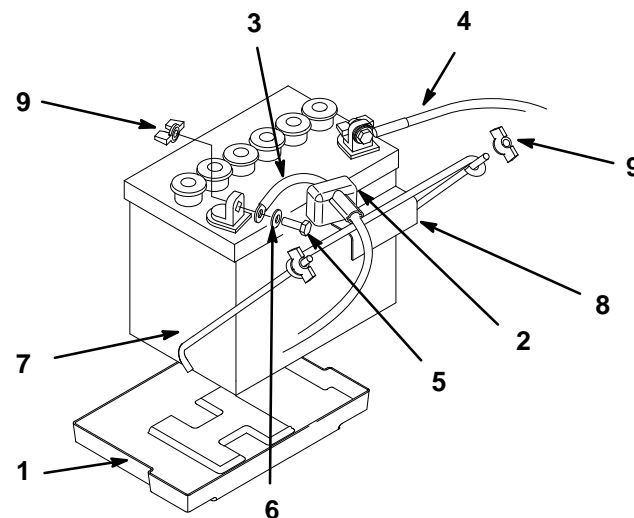

Figure 6
2. Position battery in tray with terminal posts toward the engine (Fig. 6).
4. Install the positive (red) battery cable to positive (+) battery terminal then negative battery cable to the negative (-) battery terminal. Secure cables with (2) 1/4 x 3/4" (19 mm) bolts 1/4" washers, 1/4" lock washers and 1/4" locknuts.
5. Secure battery with (2) support rods, a battery clamp and (2) 1/4" wing nuts. Position support rods in mounting holes (Fig. 6). Tighten wing nuts so battery is held securely in position and will not slide. **DO NOT OVERTIGHTEN.**